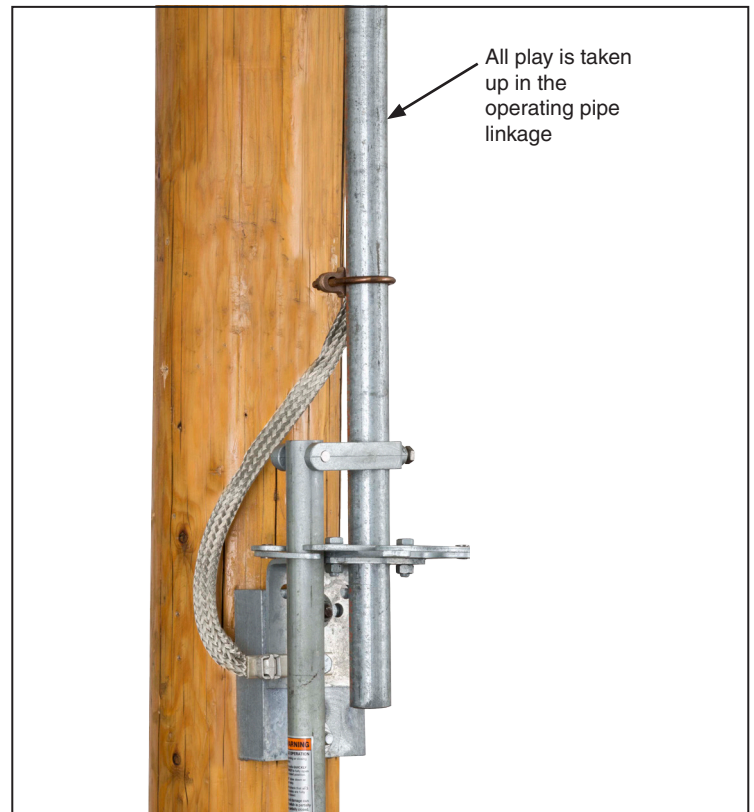

Figure 35. Verify the wind-up.
- (d) Push the handle into the closed stop position. It should take significant force to secure the handle into the closed stop. The handle will be firmly pressed against the left side of the closed stop plate. This pressure will hold the torque in the pipe, creating the desired windup. Move the handle into the **Open** position to verify it fits into the open stop plate. See Figure 35.